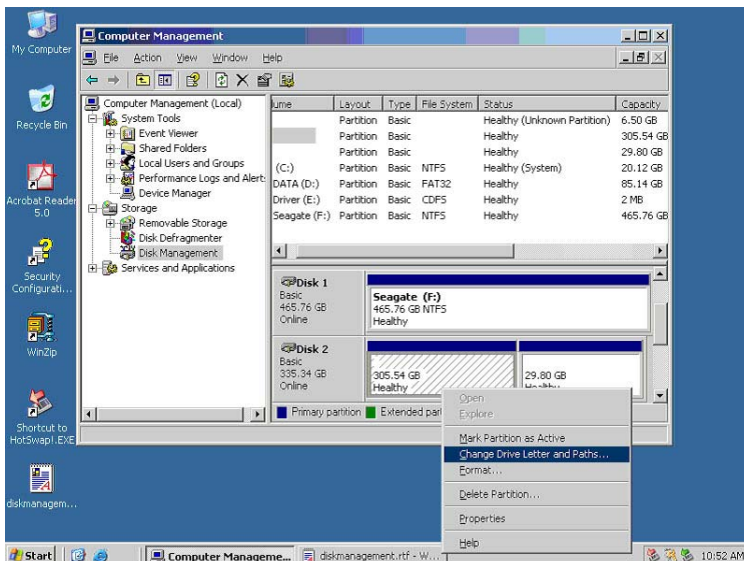

Figure 4
2. Right click on the **Healthy** disk, the disk without a drive letter, then click **Change Drive Letter and Paths**. See Figure 4.